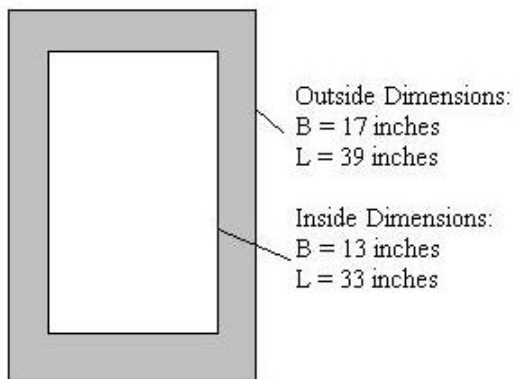

Figure 3: Cross-sectional area.
3. Part 1: Calculate the compressive force for the cross-sectional area shown in Figure 3. The original length of the member was 100-in long. After applying the compressive force, the member was 99-in long. The modulus of elasticity for the material used in the cross section is  $10,000 \text{ lb/in}^2$ . Use the following equations along with those in #2 and #3 to complete the problem. Show your work and calculations.
Part 2: Calculate the tension force for the cross-sectional area shown in Figure 3. The original length of the member was 100-in long. After applying the tensile force, the member was 103-in long. The modulus of elasticity for the material used in the cross section is the same as in #2 above. Use the following equations along with those in #2 and #3 to complete the problem. Show your work and calculations.